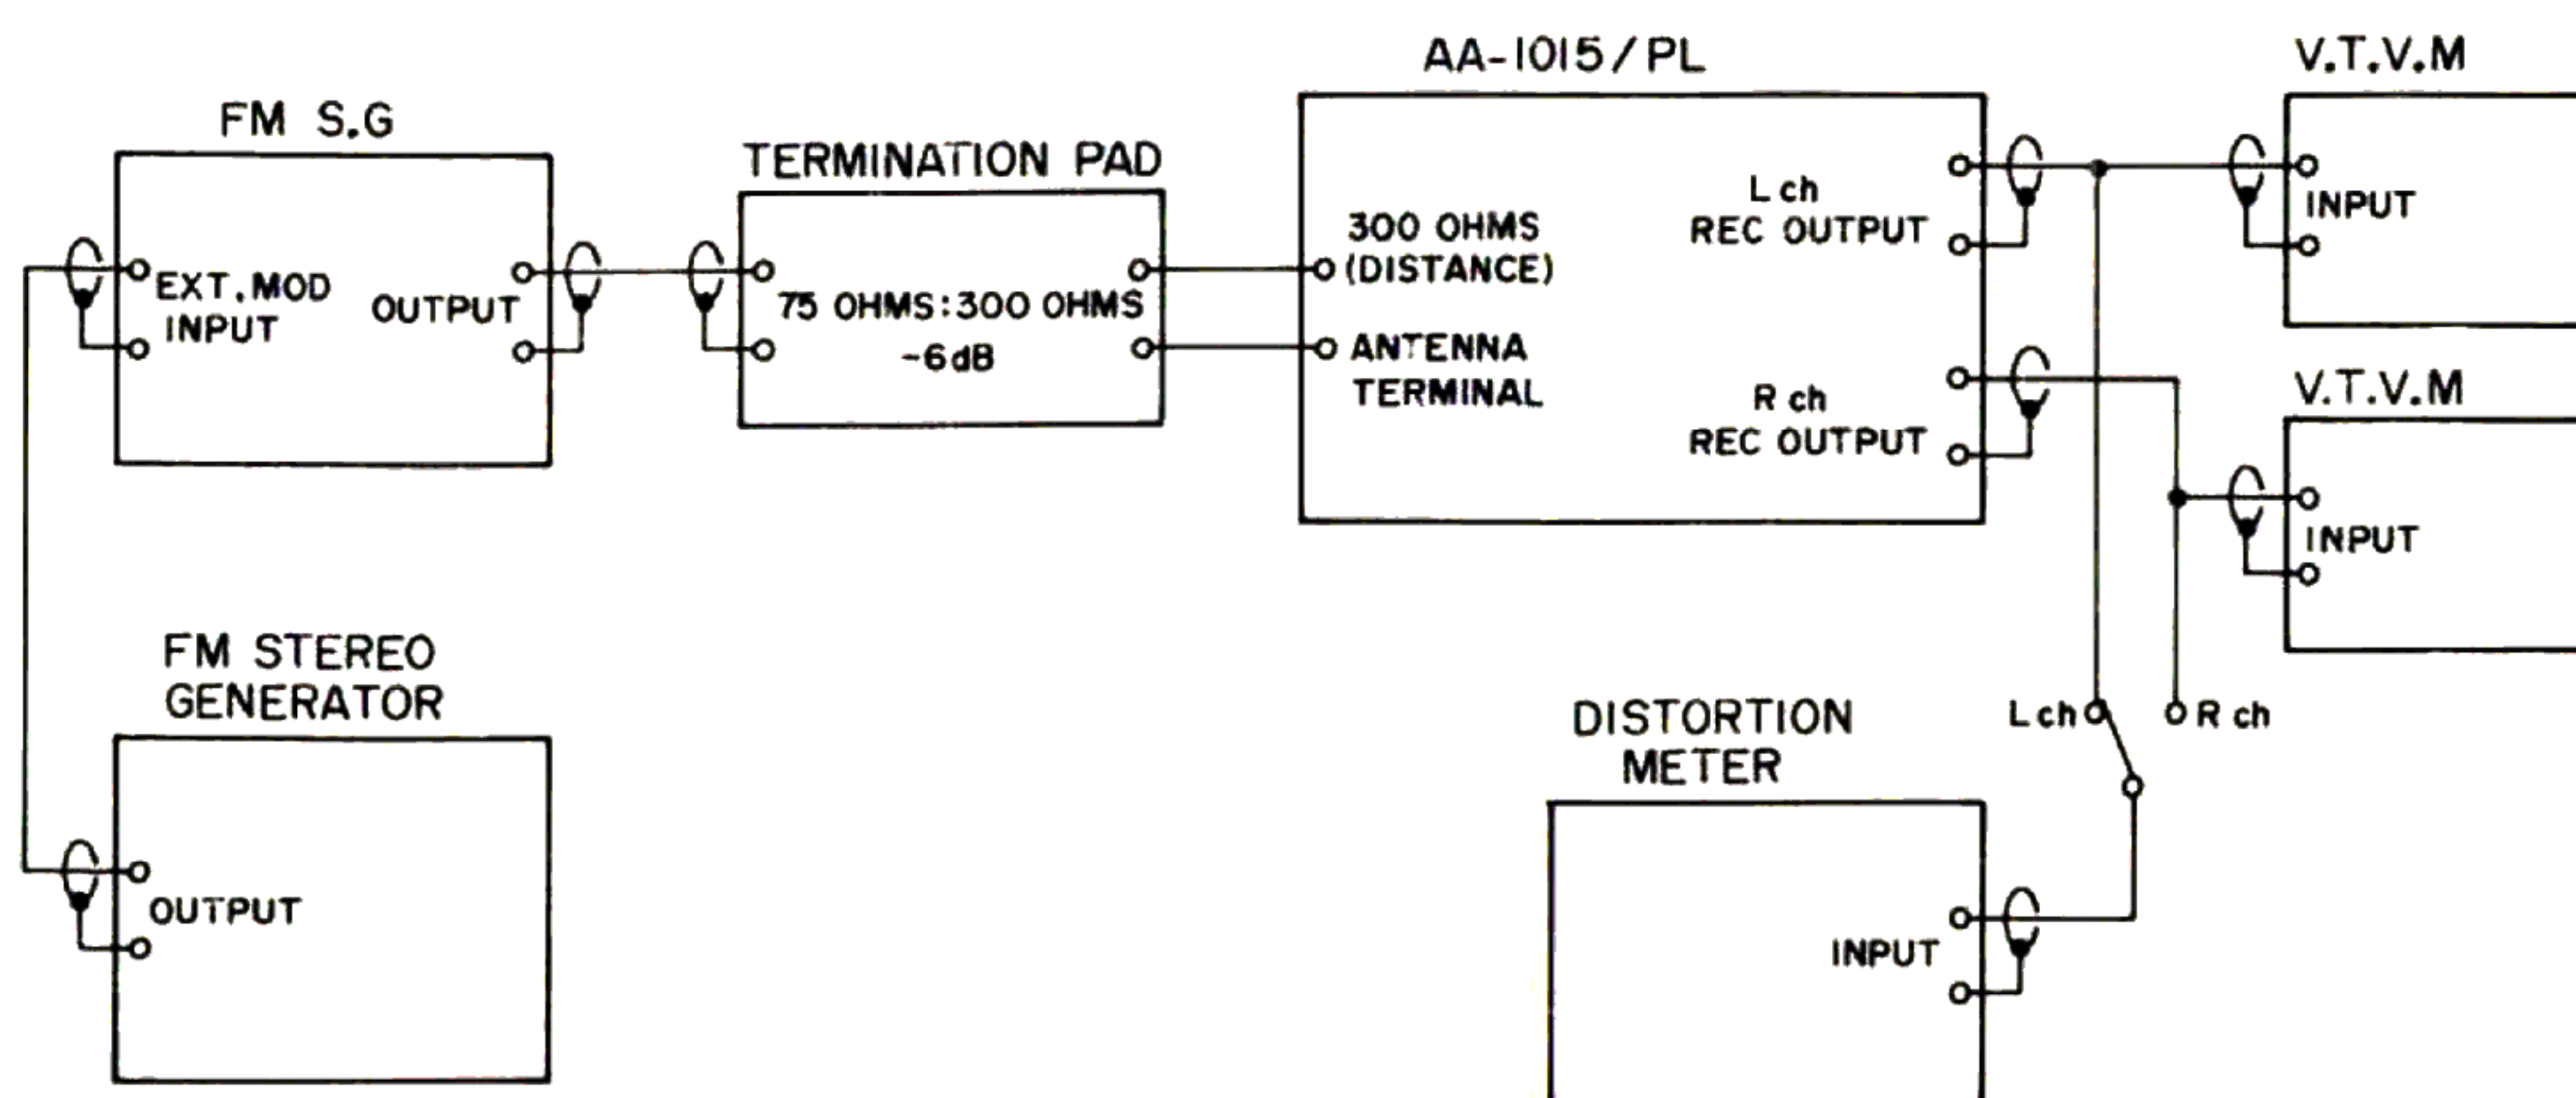

Fig. 28 Instrument Connections
a. FM Tuner Section Adjustment (Refer to Figs. 28, 30)